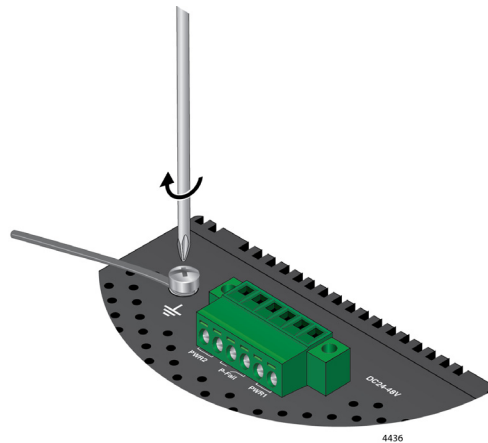

Figure 28. Secure Grounding Wire to the Switch
4. Tighten the screw clockwise to secure the ground wire to the switch chassis. Refer to Figure 28.